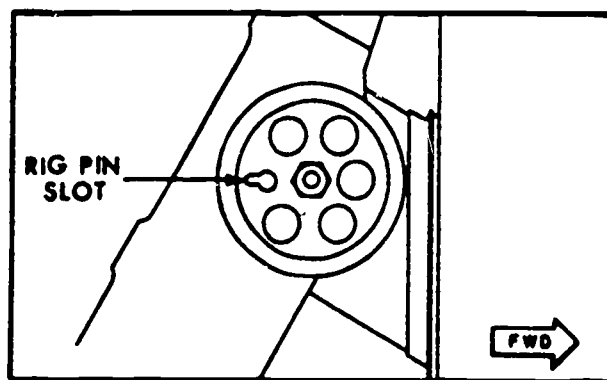

Figure 5. Fireseal Bracket.
3. Insert a rig pin through the condition control pulley on the fireseal bracket into the fireseal bracket, see figure 5. The pulley may